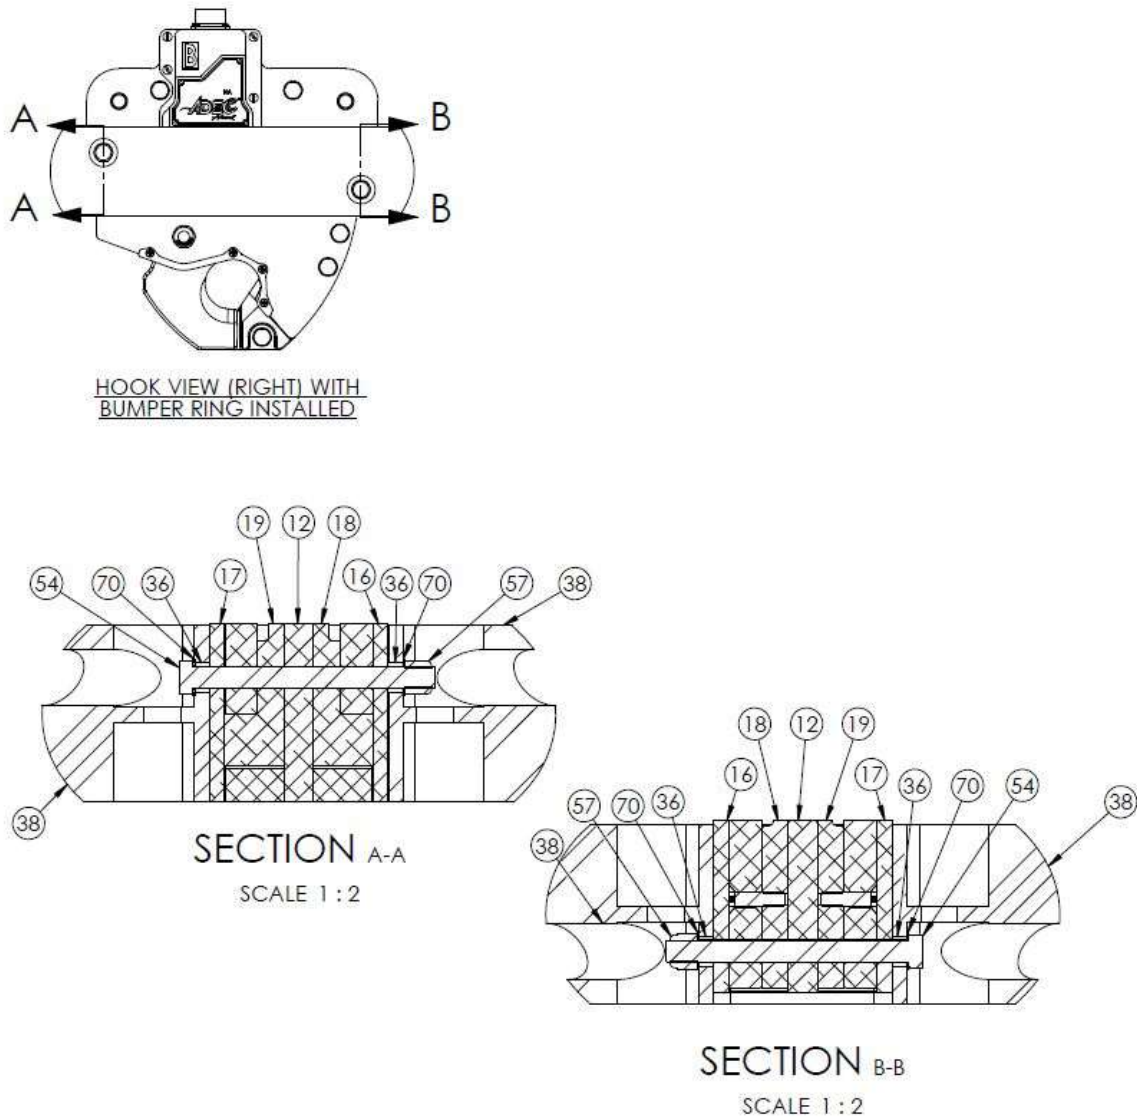

Figure 4.5: Bumper Ring Hardware Stackup
- Install LH and RH release mechanism components as per Figures 4.5 & 4.6.